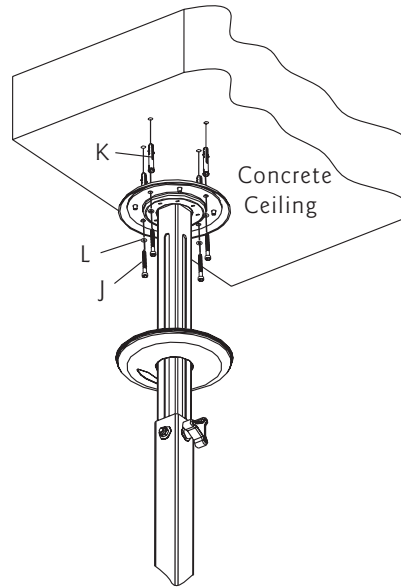

Fig 2b
Use Ceiling plate as a template to mark the location of four holes. Pre-drill these holes with a 10mm drill bit to at least 50mm in deep hole. Insert Wall anchors(K) into each of these holes. Fix the Ceiling plate to the ceiling with 4 long bolts(J) and washers(L)(Fig.2b).